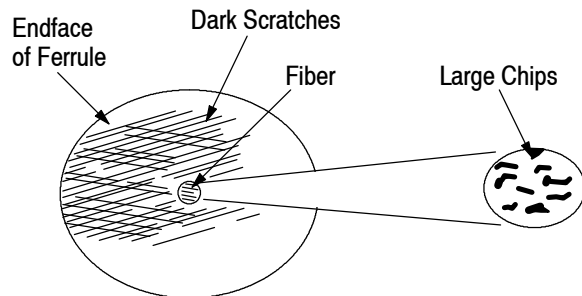

Figure 14
1. Using the microscope, inspect the endface of the ferrule and fiber according to the following criteria (refer to Figure 14):